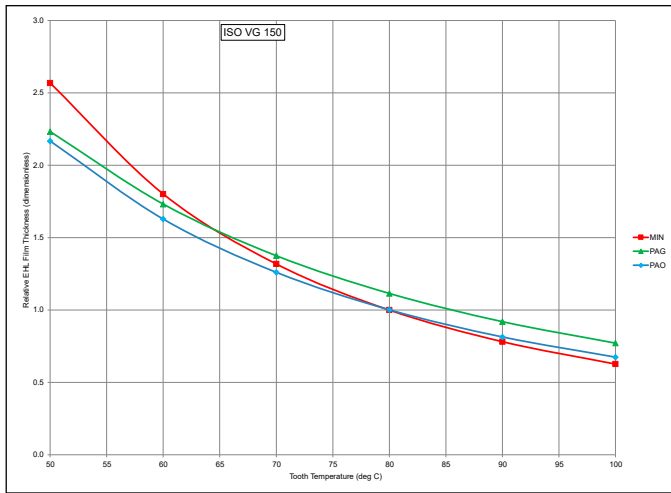

Figure 4—Relative EHL film thickness for ISO VG 150 lubricants.
8. Figure 4 compares performance of the three ISO VG 150 lubricants: